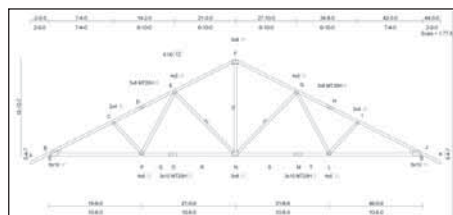

Figure 1
As you can see, there is no cost benefit of replacing a 12' 2x4 SS member with a #2 grade 2x6 of the same length; therefore, the most economical truss likely contains 2x4 lumber. However, if the truss uses 14' members, there is an economical benefit the truss is designing with 2x6 members. Adjusting lumber price by the board footage (as in Table 1) identifies cases where replacing high grade lumber with a larger board of a lower grade is likely to reduce truss cost. This can be proven by comparing two identical 42' trusses, one with a 2x4 Select Structural (SS) bottom chord and one with a 2x6 #2 grade bottom chord (Figures 1 and 2). The lumber cost for each truss is summarized in Table 2 indicating the 2x6 bottom chord is
42' Common w/ 14' 2x4 Bottom Chord Lengths (Figure 1)